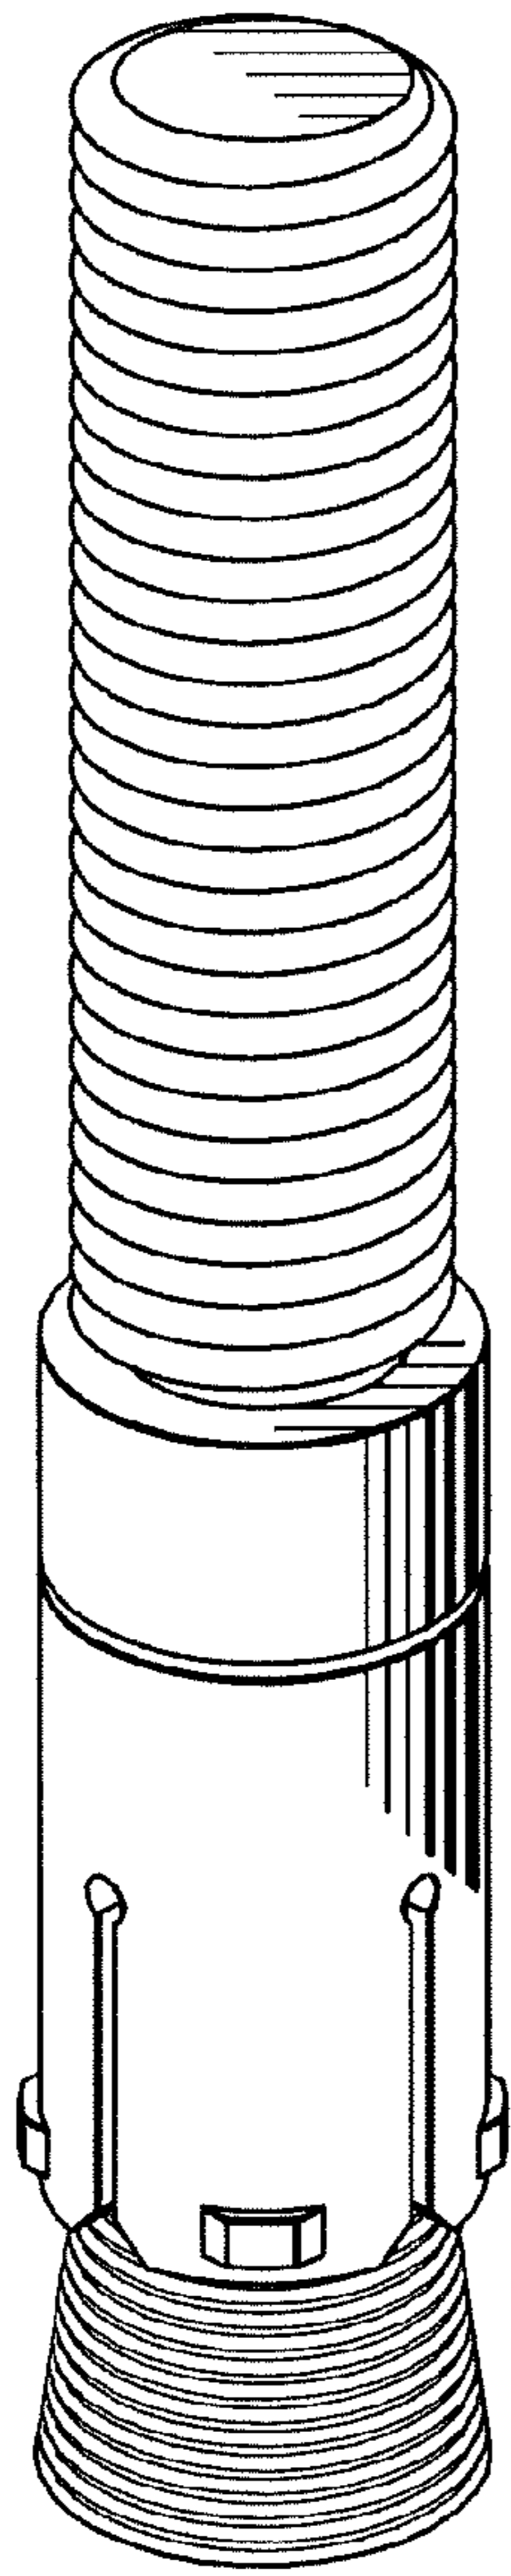

Fig. 21
- FIG. 21 is a top perspective view of the stud having latitudinal ridges;